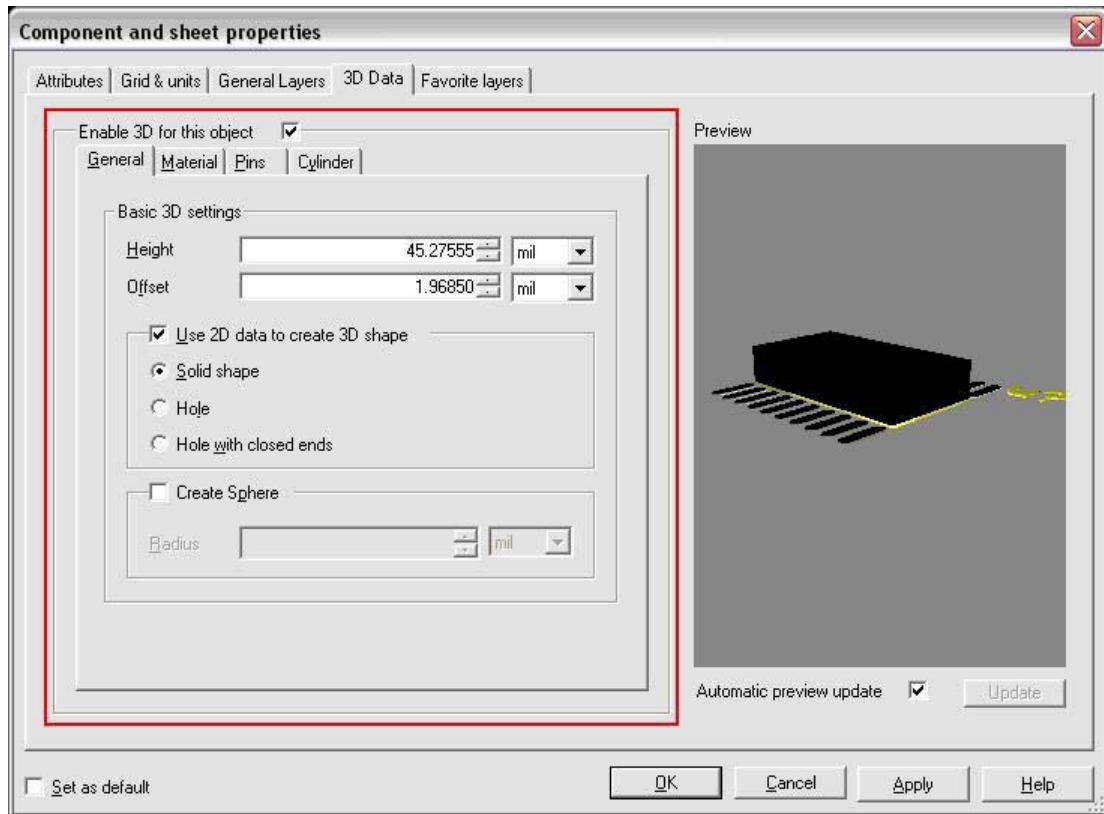

Figure 23 - 3D Settings
i.) Set the properties for the 3D information (Table 3) and the dialog will appear as in Figure 23 (in the red box). Click the **OK** button.